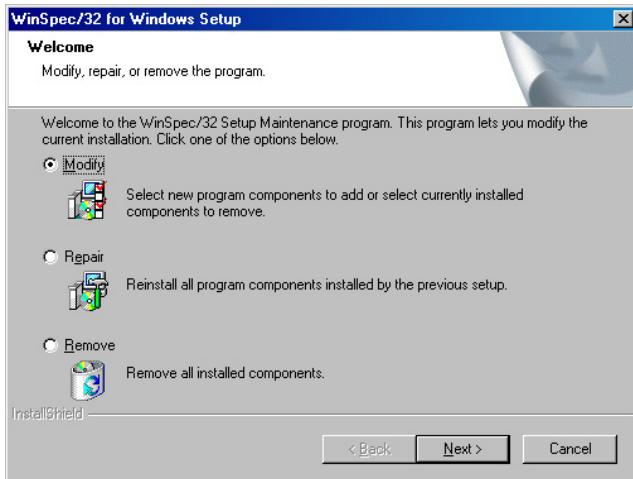

Figure 193. Maintenance dialog box
2. Because WinSpec/32 was previously installed, the **WinSpec Maintenance** dialog box (Figure 193) will be displayed.